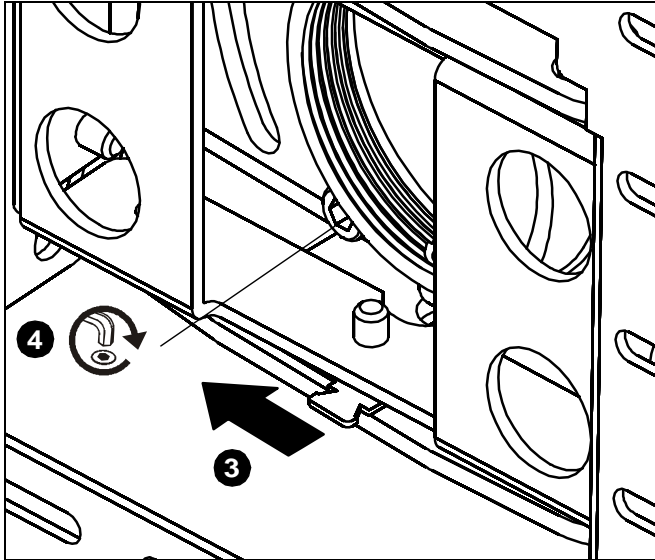

Figure 5
3. Return security tab to left side. (See Figure 5)
4. Tighten security screw. (See Figure 5)